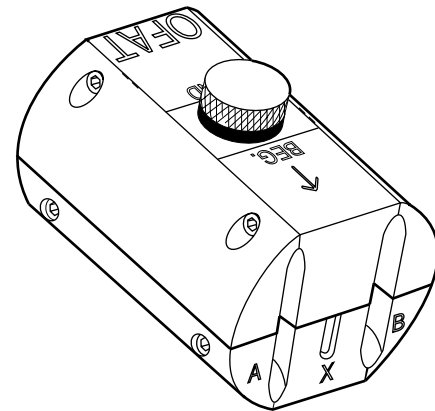

Figure 1
1.1 This procedure describes how to access fibers in a buffer tube in a mid-span location with or without slack using the Corning Cable Systems OFT-000 Optical Fiber Access Tool (OFAT) (Figure 1).